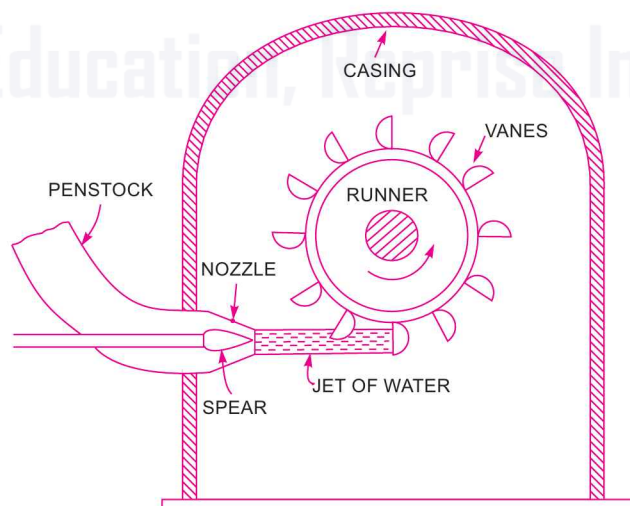

Fig. 18.4 *Pelton turbine.*
**3. Casing.** Fig. 18.4 shows a Pelton turbine with a casing. The function of the casing is to prevent the splashing of the water and to discharge water to tail race. It also acts as safeguard against accidents. It is made of cast iron or fabricated steel plates. The casing of the Pelton wheel does not perform any hydraulic function.